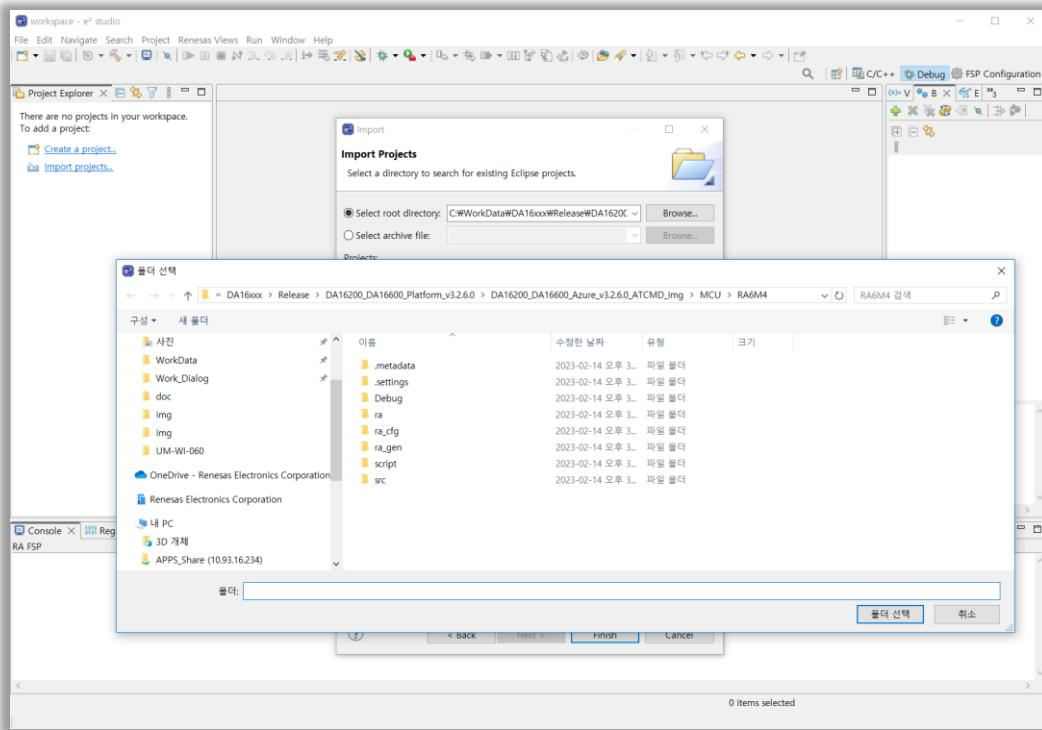

Figure 49: e²studio Project File
1. Import the project file at \MCU\RA6M4\ (see Figure 49).